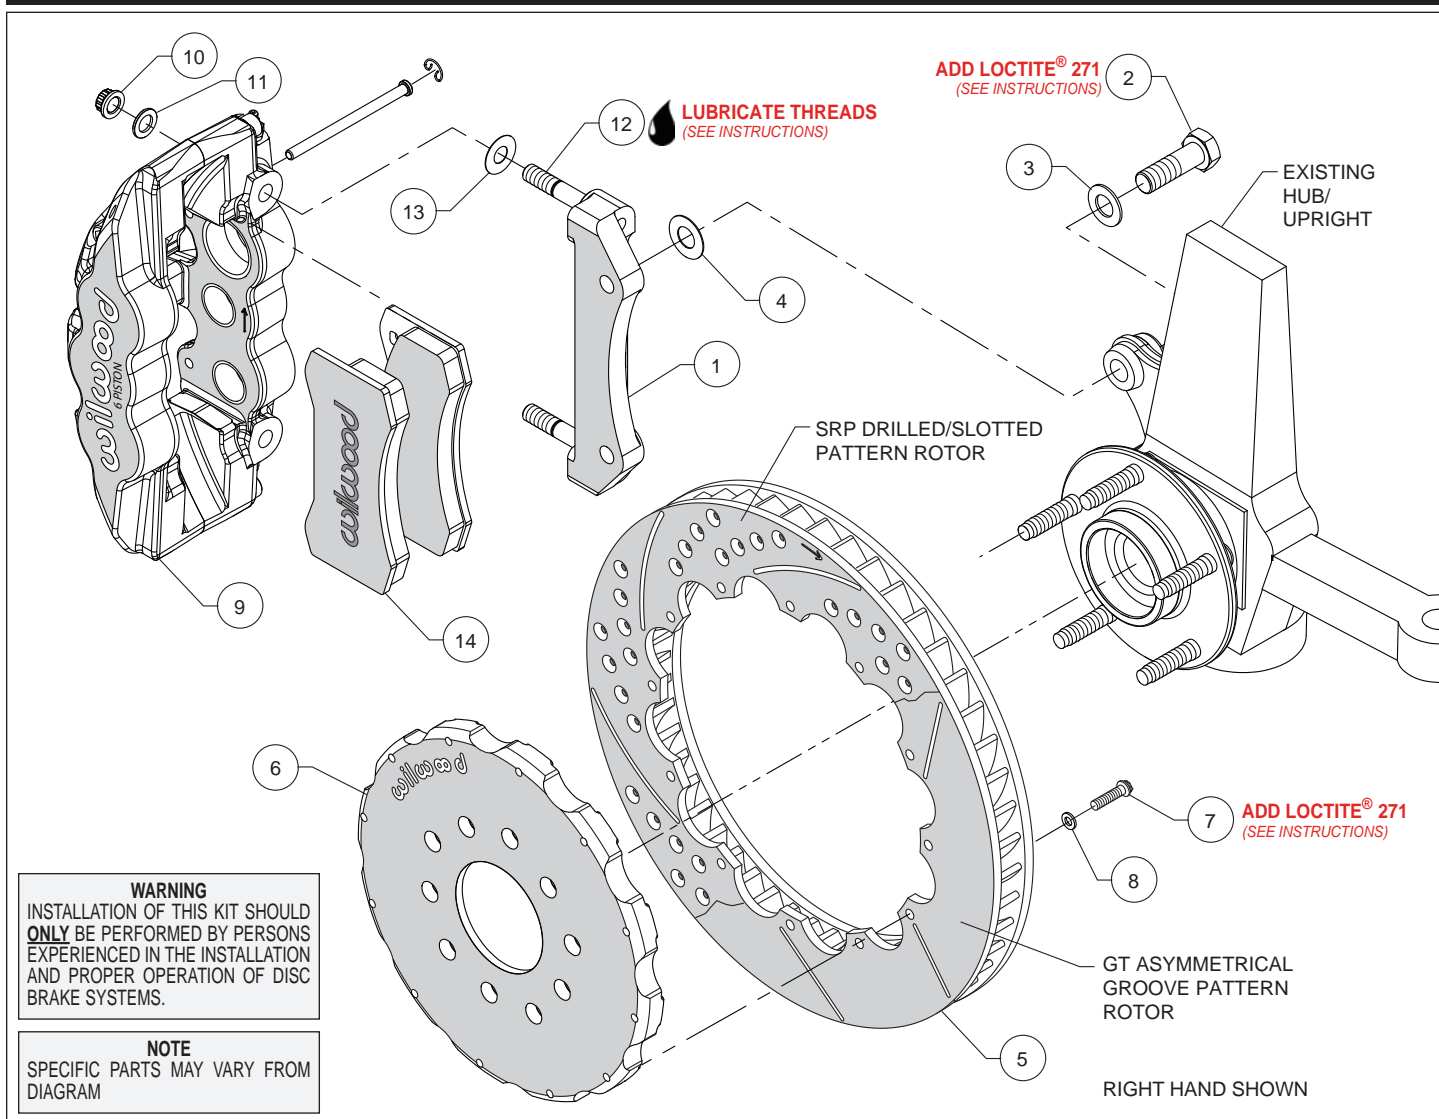
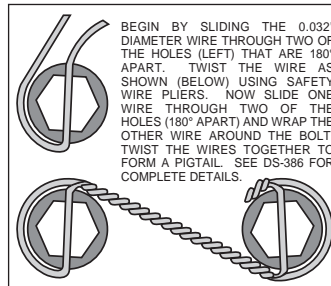

Figure 1. Typical Installation Configuration
Figure 3. Safety Wire Diagram
Assembly Instructions (numbers in parenthesis refer to the parts list and Figure 1 on the preceding pages):
- The caliper mount bracket (1) should initially be installed with clean, dry threads on the mounting bolts. Orient the bracket, as shown in Figure 1 and Photo 1, and install using bolts (2) and washers (3). Initially place one .029" thick shim (4) on each bolt between the bracket and upright, Figure 1. Temporarily tighten the mounting bolts. **NOTE:** *The bracket must fit squarely against the mount bosses on the upright.* Inspect for interference from casting irregularities, machining ridges, burrs, etc. Later, after the caliper alignment has been checked, the mount bolts will be secured using red *Loctite*[®] 271.
- Orient the rotor (5) and the hat (6) as shown in Figure 1 and Photo 2. Attach rotor to hat using bolts (7) and washers (8). Using an alternating sequence, apply red *Loctite*[®] 271 to the threads, and torque to 155 **in-lbs**. For an added measure of security, the bolts may be safety wired using standard 0.032 inch diameter stainless steel safety wire as shown in Figure 3. Refer to Wilwood's data sheet DS-386 (available at www.wilwood.com/Pdf/DataSheets/ds386.pdf) for complete safety wire installation instructions.
- NOTE:** *This kit contains distinct right and left hand calipers that must be mounted in a specific direction, as described below.* Lubricate the caliper mounting studs (12) with lightweight oil. Initially place one .030" thick shim (13) on each stud between the caliper and the bracket, as shown in Figure 1 and Photo 4. Mount the caliper (9) onto the bracket (1) using lock nuts (10) and washers (11), Figure 1. Temporarily tighten the lock nuts. Ensure that the caliper is mounted so the largest pistons are at the rotor exit end of the caliper, in relation to the direction of the rotor. View the rotor through the top opening of the caliper. The rotor should be centered in the caliper, Photo 5. If not, adjust by adding or subtracting shims (4) between the bracket and the upright. Always use the same amount of shims on each of the two mounting bolts. Once the caliper alignment is correct, remove the bracket mounting bolts one at a time, apply red *Loctite*[®] 271 to the threads, and torque to 77 ft-lbs.
- Remove the caliper (9), then remove the two pad retaining pins from the caliper by carefully popping out the pin retaining clips and sliding out the pins. Insert the brake pads (14) into the caliper from the bottom, Figure 1 and Photo 6. With the friction material facing the rotor, secure the brake pads in place with the pad retaining pins and clips, Photo 7. Reinstall the caliper onto the caliper mounting bracket and temporarily tighten the lock nuts. Check that the top of the brake pad is flush with the outside diameter of the rotor, Photo 8. If not, adjust by adding or subtracting shims (13) between the caliper and the bracket. After the caliper pad height is set, torque the caliper lock nuts (10) to 47 ft-lb.